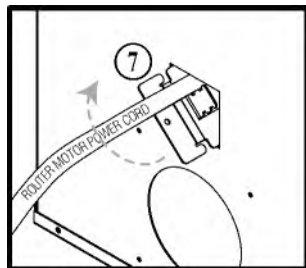

FIGURE D-1
2. Tilt the Strain Relief Bracket about 45° and insert it into the square hole in the Rear Section of the Cabinet. **FIGURE D-1.** This allows the top half of the Strain Relief Bracket to enter the hole.